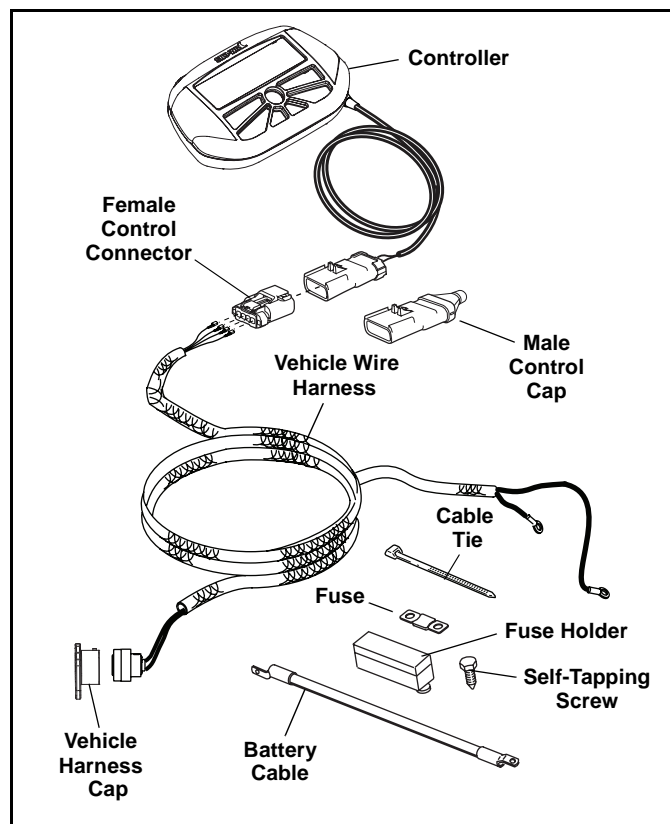

Figure 1-1
1. Locate the following parts from your Vehicle Harness and Control Packages (See Figure 1-1):